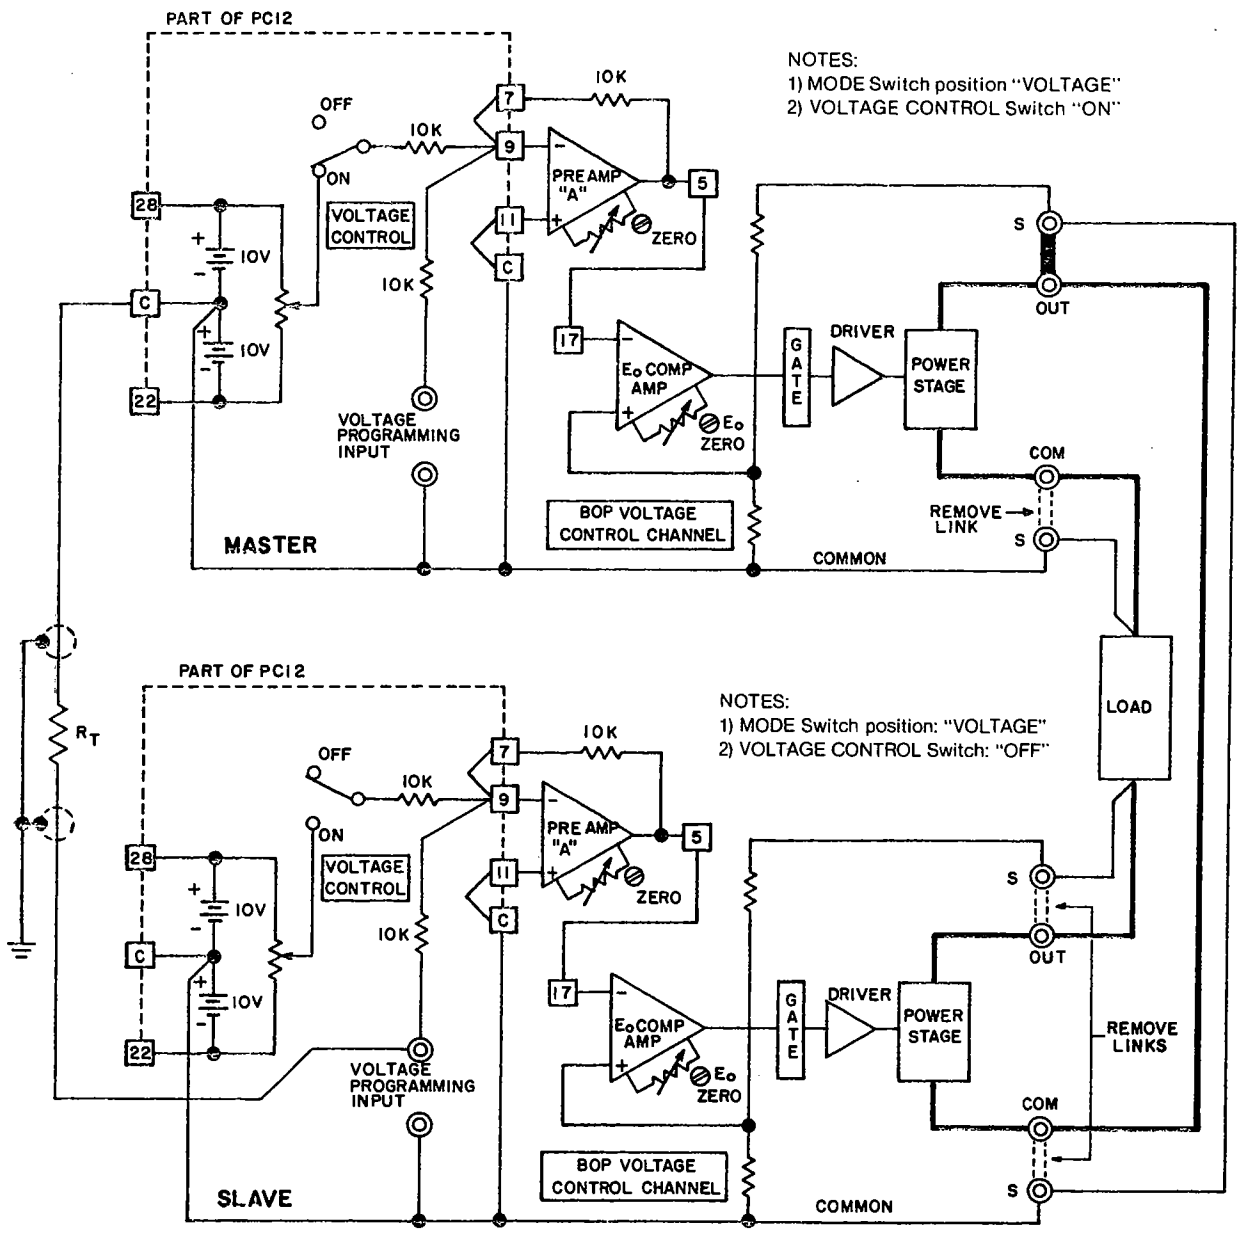

FIG. 3-26 MASTER/SLAVE SERIES CONNECTION OF TWO BOP POWER SUPPLIES, WITH ERROR SENSING AT THE COMMON LOAD.
- 1) Connect the BOP supplies as shown in FIG. 3-26. Set the MODE switches and the VOLTAGE CONTROL switches as directed in the set-up diagram, FIG. 3-26. Load-wire size should be as large as practicable and load-wire pairs should be twisted to keep the d-c resistance, as well as the inductance as low as possible. Use shielded cable for connecting the coupling resistor (R_T). Connect shield to common ground. Either the positive, or the negative output side of the system can be grounded.
- 4) Following the set-up procedures as described above, turn BOP's "on" and commence operation. The system as shown in the set-up diagram (FIG. 3-26) operates in the Voltage Mode, since the MASTER MODE switch is in "VOLTAGE" position. For operation in the Current Mode, transfer the MASTER MODE switch to "CURRENT".
- 3-43** To extend the concept of series connection to more than two BOP units, refer to FIG. 3-26. The BOP unit now designated the SLAVE becomes the new MASTER for the next BOP unit to be added and so on, up to the desired number of BOP's in series. Simply place the BOP outputs in series and connect a further coupling resistor (R_T) from the *present* SLAVE, terminal [C] to the *new* SLAVE, front panel VOLTAGE PROGRAMMING INPUT. Place the MODE switch on the BOP added to the series combination to VOLTAGE and the VOLTAGE CONTROL switch OFF.